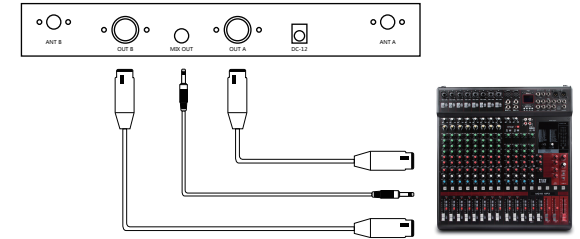
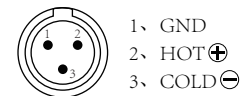

Fig.3
Fig.5
1.Install antenna in rear (1).Extend antenna to fullest position .see Fig.3.
(a)Unbalanced Output:Using audio output cable attached with “PHONE PLUG” type,connect one end from the unbalanced output jack(7)of the receiver ,and the other end of the “LINE-IN” input jack of the amplifier ,as shown in Fig.3.
(b)Balanced Output:Using audio output cables attached with XLR or “Canon” type,connect one end from the balanced output jacks(6)of the receiver,and the other end to the “MIC IN” input jack of the mixer or amplifier,as shown in Fig.3.(The characteristic of the 3-pin connector is as shown in Fig.5)